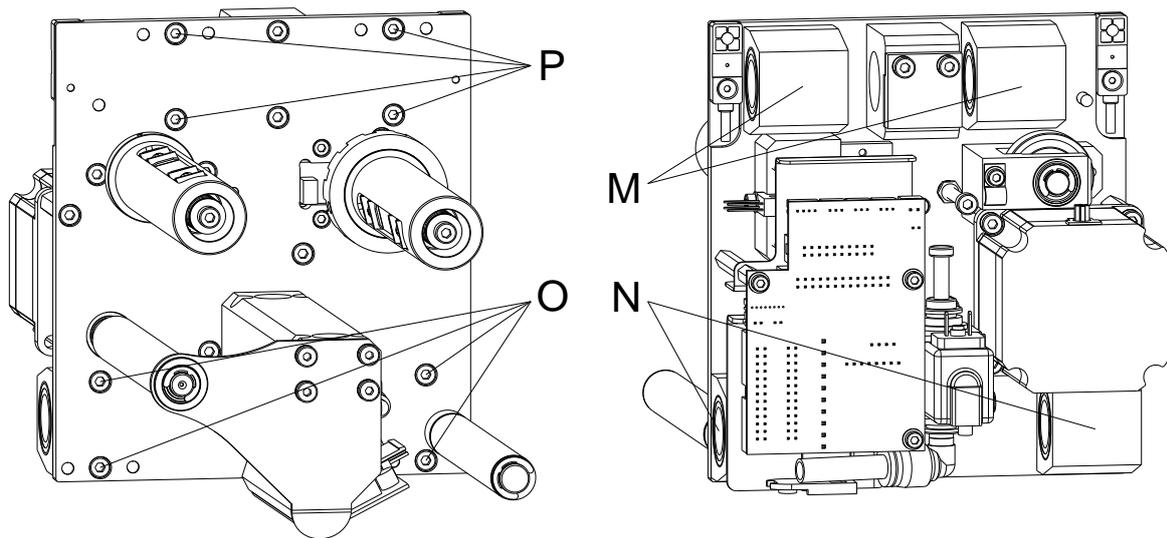

Figure 40
1. Insert a new linear bearing (N) on the fixing pins.
2. Carefully swivel the angle for the chain (Q) forward.
3. Tighten the screw (R).
4. Tighten the screw (S).
5. Tighten the screws (O, Figure 40).